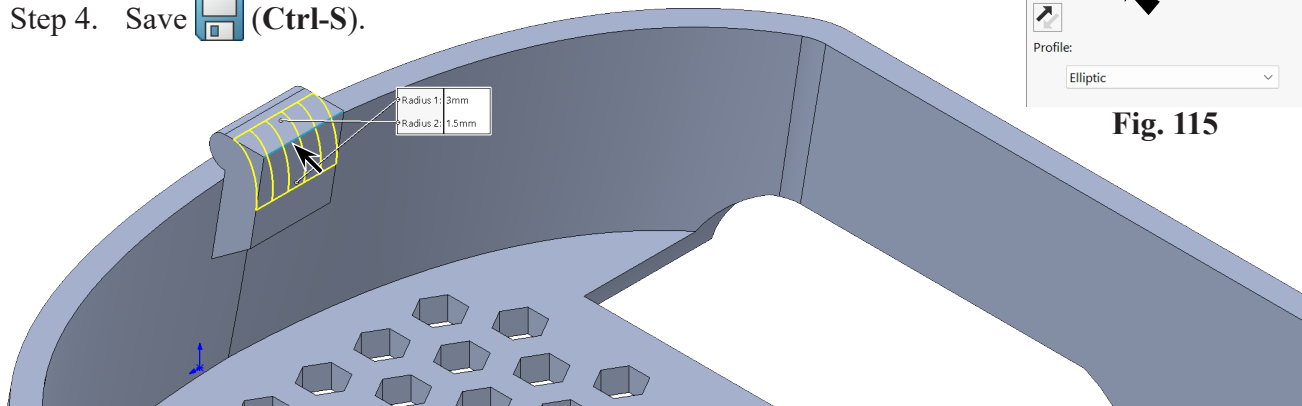

Fig. 116
click **top rear edge of catch (1)**, **Fig. 116**